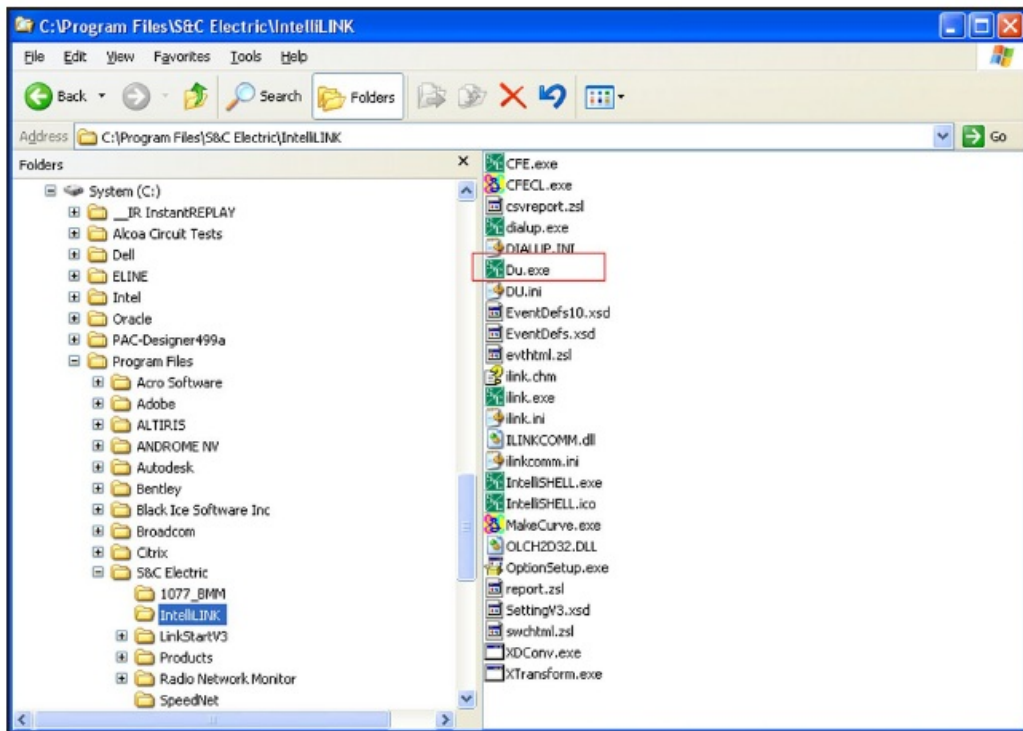

Figure 11. The Download Utility file location.
- **STEP 2.** The DU application, by default, is installed in the C:\Program Files\ S&C Electric\IntelliLink folder. See Figure 11.